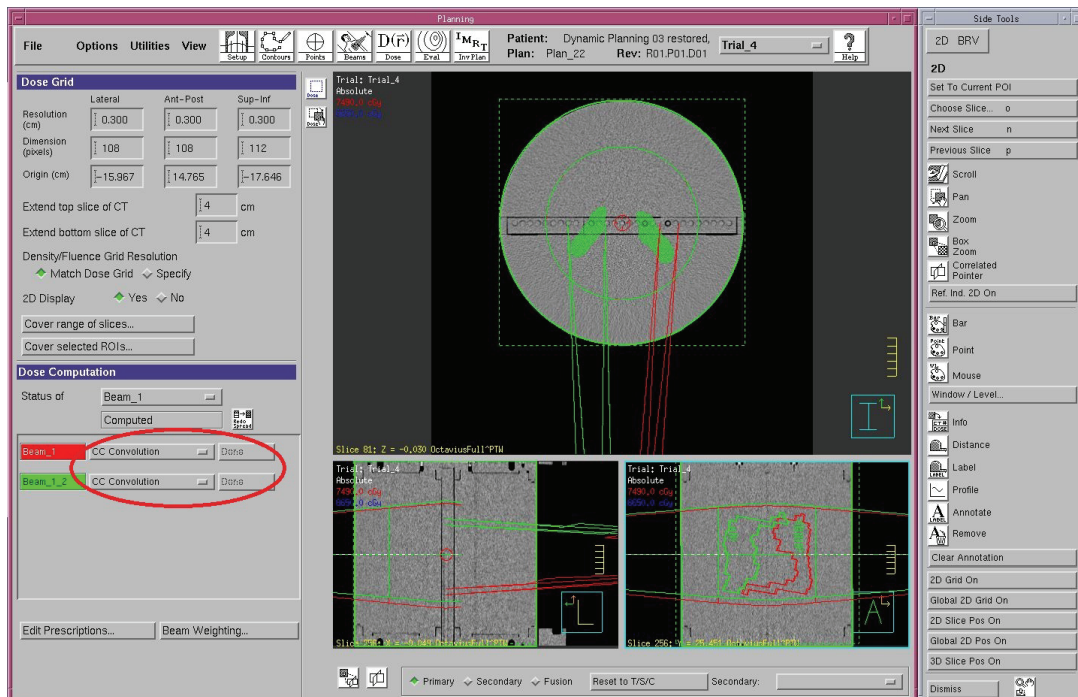

Fig. 4.8 Dose calculation
- Calculate dose for the beams (Figure 4.8).